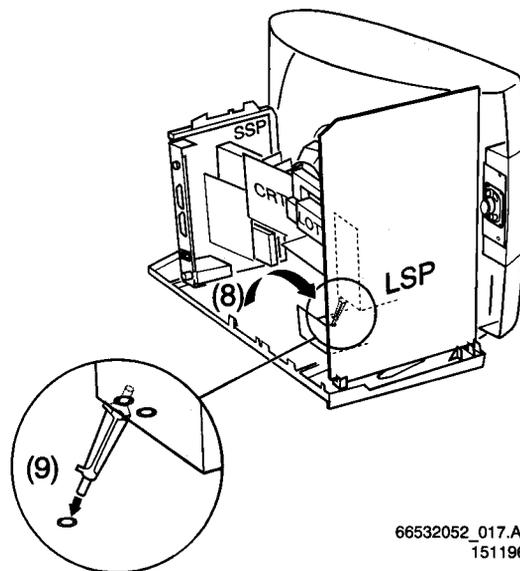

Figure 4.5
### SSP and LSP copper side without table/workbench (Figure 4.5)
5. Put the LSP to the vertical position (Figure 4.5), copper side at the right hand, LOT above (8). For this position, special grooves are made in the bottom plate of the cabinet.
6. Fix the position of the LSP by putting the service pin between LSP (heat sink) and bottom plate (9). There are special holes in the heat sink and the bottom plate to put the service pin in.